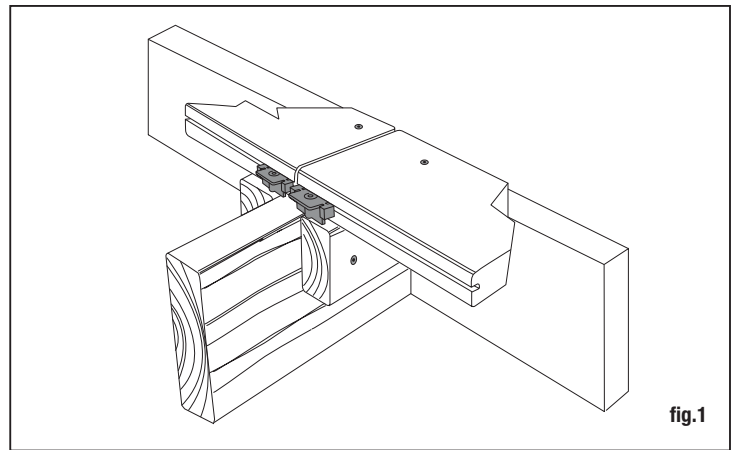

fig.1
- Double joist or use blocking where two board ends meet (fig.1).